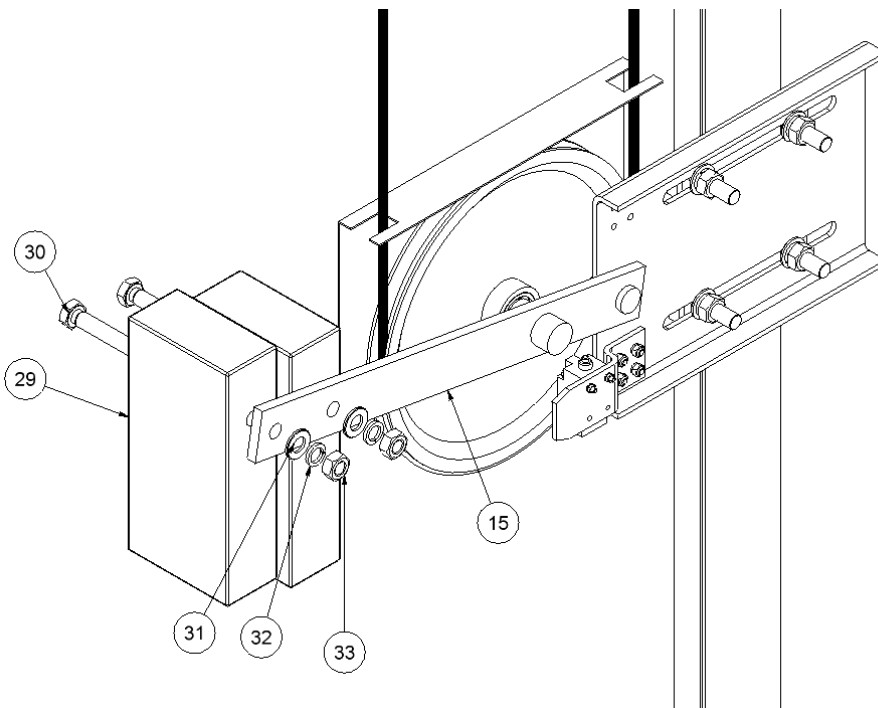

Figure. 7
8. ASSEMBLY OF THE WEIGHTS IN THE TENSION PULLEY: The weights (29) will
have to be joined in the position as it shown in the Figure 7. Use two screws DIN 931 M14x80 (30). Fix them with two Grover washers DIN 127 M14 (32), two washers DIN 125 M14 (31) and two nuts DIN 934 M14 (33).